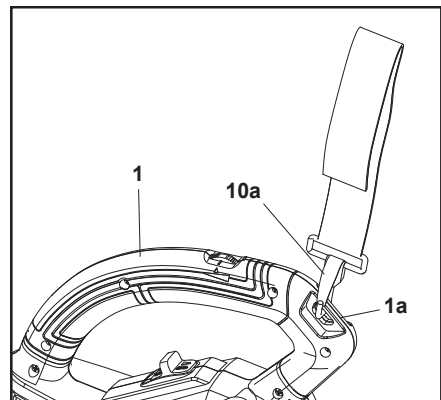

Fig. 4
2. Adjust the length of the harness (10) so that the securing clip (10a) is approximately 15 cm below your waist.
3. Attach the securing clip (10a) to the hanging hole (1a) on the main handle (1) (Fig. 4).